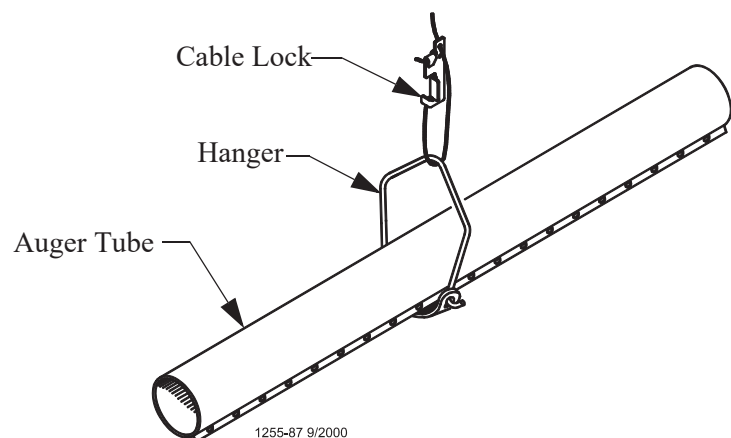

Figure 36. Hanger Installation
5. Install the Hangers on the feed line tube at the 8' [2.4 m] spacings determined by the suspension drop lines. **Figure 36** shows the proper installation of the Hanger Assembly. Make sure the outlet drop hole is downward when the Hangers are installed, otherwise feed will not be allowed to drop into the feeder pan.